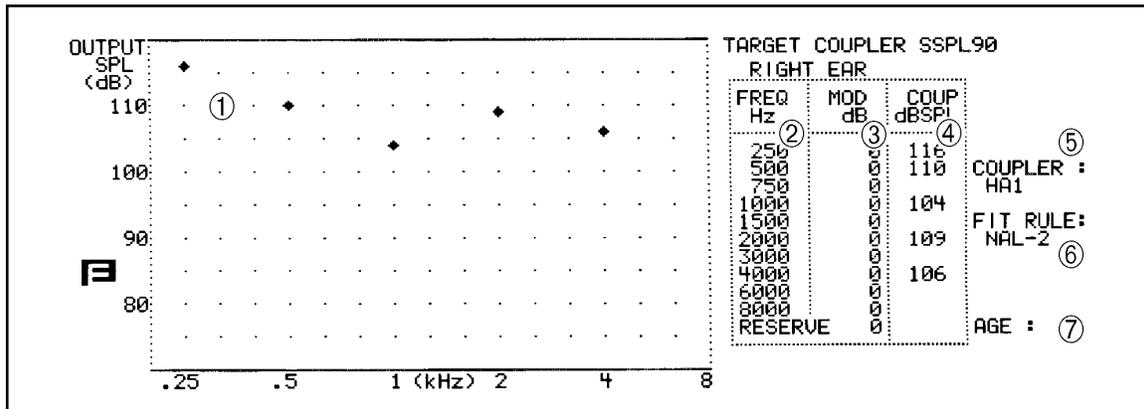

Figure 5.7.3—The SSPL 90 screen
Figure 5.7.3 contains a picture of the SSPL 90 screen.
1. Press F5 to enter the SSPL 90 screen. See Figure 5.7.3 for a picture of this screen. The stars on the graph correspond to the client's UCL values converted to dB SPL using David Pascoe's predictions*.